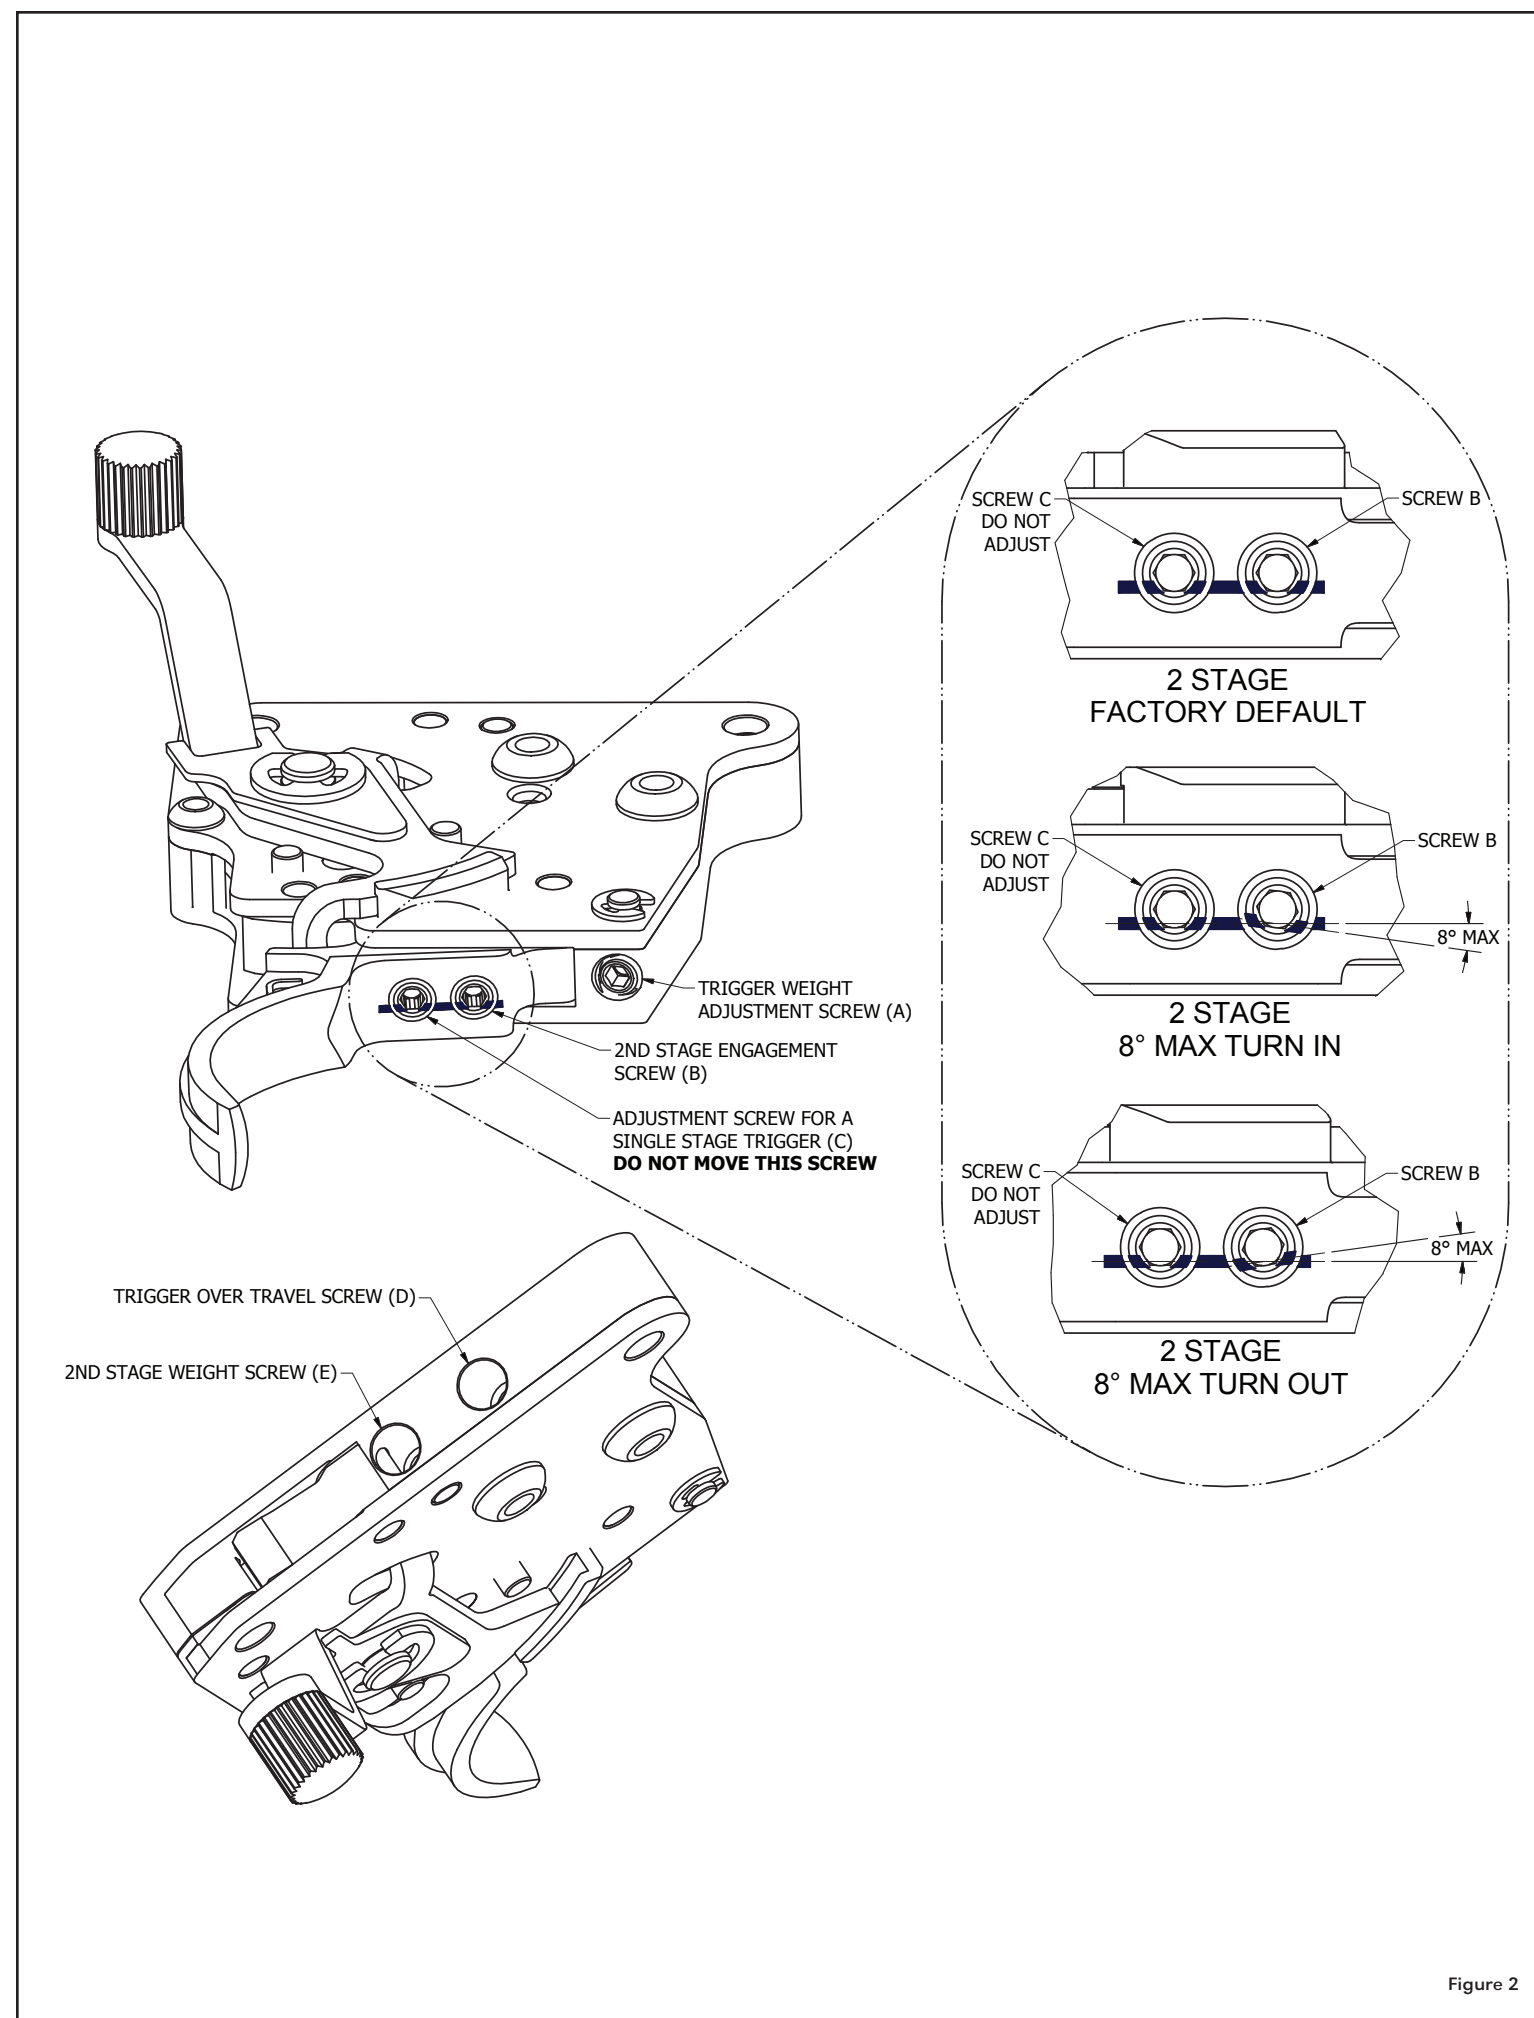

Figure 2
The Geissele Super 700 trigger in 2 Stage Configuration has the following 4 points of adjustability (See Figure 2).
- B. Second Stage Engagement Screw - Adjusts second stage sear engagement. Turning this screw in clockwise, reduces engagement, turning it out counter-clockwise, increases engagement. 8 degrees is the max adjustment in either direction (See Figure 2).
Keep in mind that a little adjustment goes a long way when adjusting the Geissele Super 700 Trigger System. All adjustments should be kept to very small increments. There are factory default orientation marks laser engraved, off center, on the bottom of the trigger showing the default settings of screws B and C as reference marks (See Figure 2).